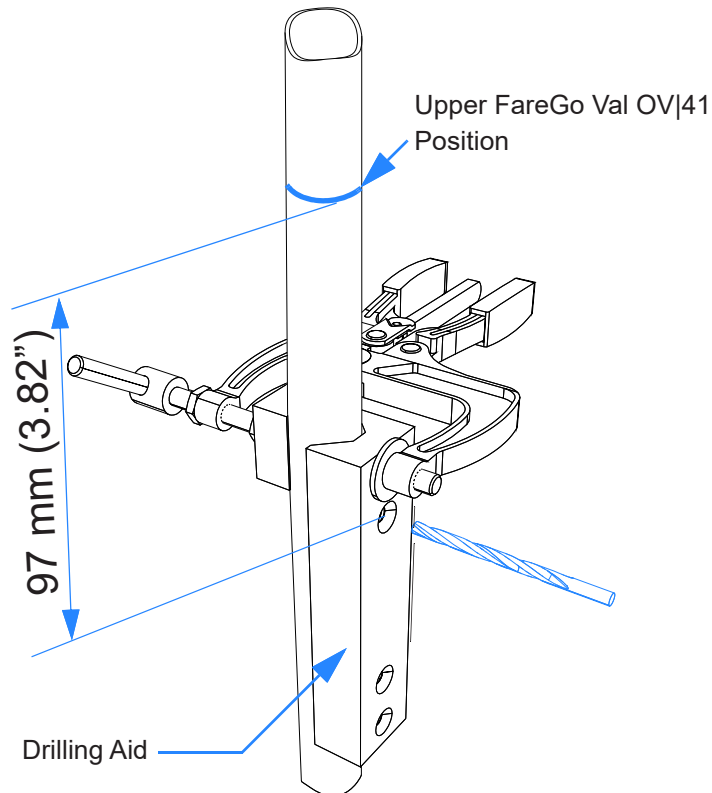
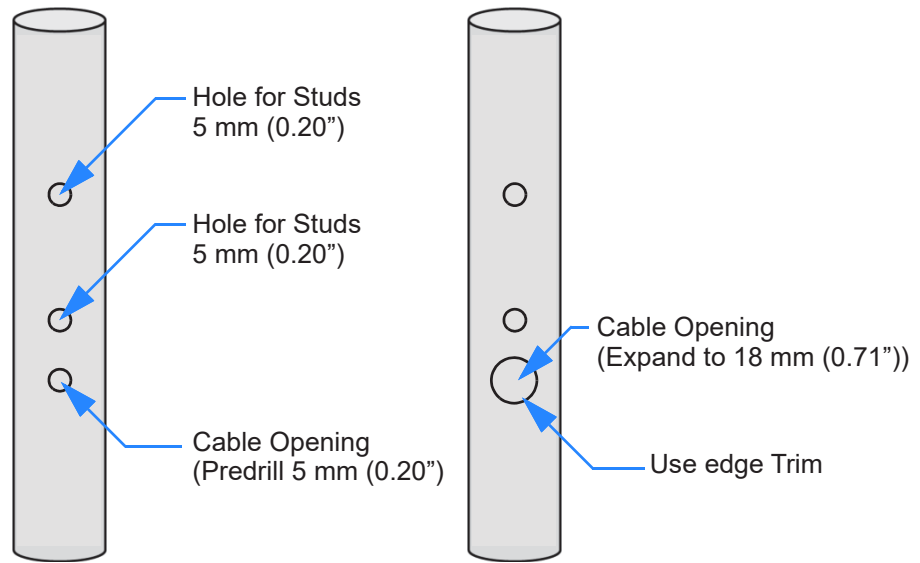

Figure 3-41 Marking Upper FareGo Val OV|41 Position
Figure 3-42 FareGo Val OV|41 Mounting Openings
- Step 3** Drill the 5 mm (0.20") holes for the studs and the cut out for the cable into the pole (see **Figure 3-41** and **Figure 3-42**).
- Step 3** Drill the 5 mm (0.20") holes for the studs and the cut out for the cable into the pole, see **Figure 3-41** and **Figure 3-42**.